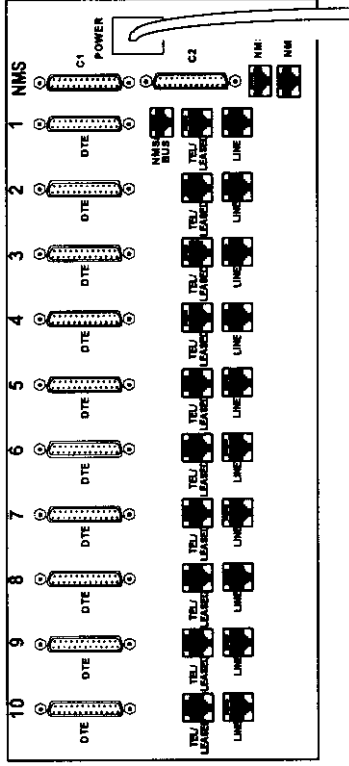

Figure 4. CardCage Connections
1. Plug the AC power cord into the rear POWER connector (Figure 4). Insert the power supply module in the right slot (as viewed from the front).
2. Gain access to the rear panel of the CardCage (Figure 4).